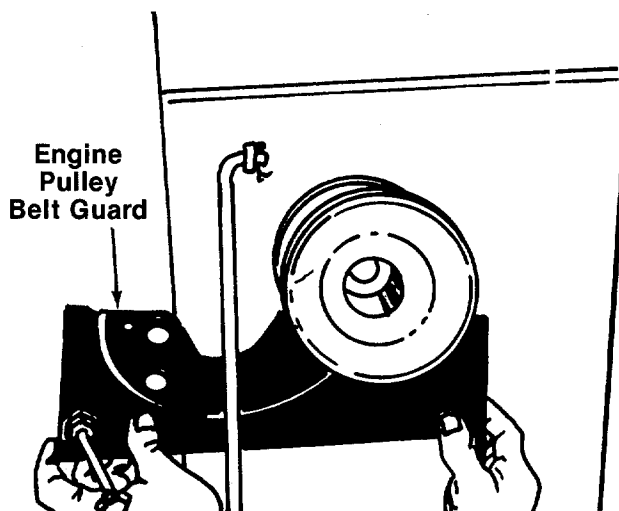

FIGURE 24.
5. Remove the engine pulley belt guard by slipping it back and to the right. See figure 24.